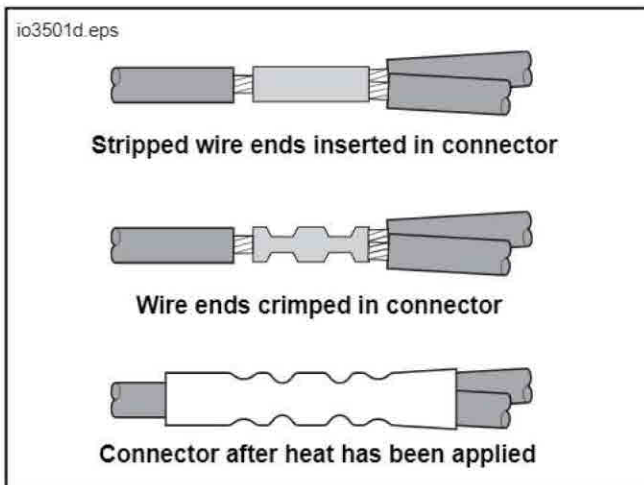

Figure 4. Installing Butt Connectors
- See Figure 4, and the BUTT SPLICE CONNECTORS section of the Service Manual. Insert the blue wire from the license-plate frame and one of the fender tip lamp wires into one end of a butt-splice electrical connector (13) from the kit, and crimp with a Crimp Tool, Part No. H-D 38125-8.